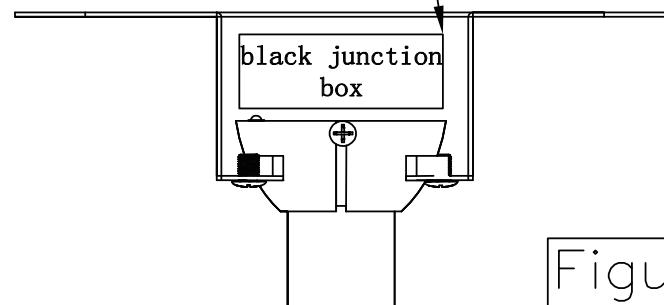

Figure 4
- After connections have been made, turn leads upward and carefully push leads into the outlet box, with the white and green leads to one side of the box and the black leads to the other side. (Figure 4)